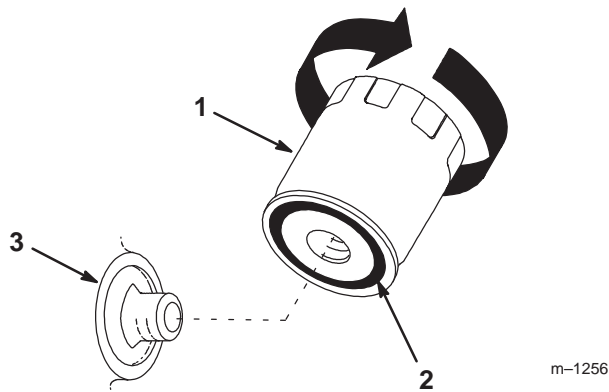

Figure 29
2. Remove the old filter and wipe the filter adapter (Fig. 29) gasket surface.
3. Apply a thin coat of new oil to the rubber gasket on the replacement filter (Fig. 29).
4. Install the replacement oil filter to the filter adapter, turn the oil filter clockwise until the rubber gasket contacts the filter adapter, then tighten the filter an additional 3/4 turn (Fig. 29).